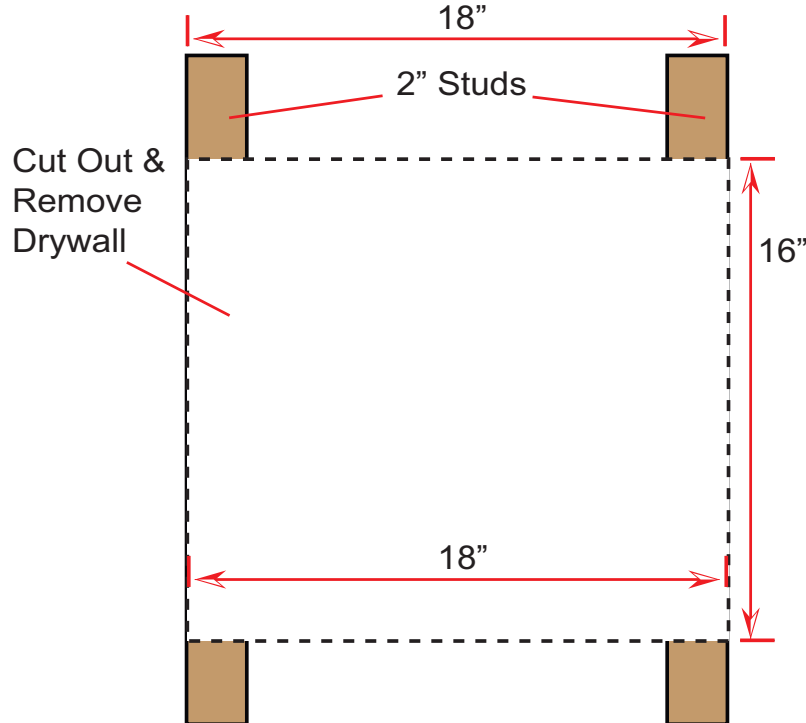

Figure 4. Exposing Studs in Existing Wall
- b. Identify and mark an installation area on the drywall between the outer edge of each stud (at least 18 in. W x 16 in. H) (Figure 4).